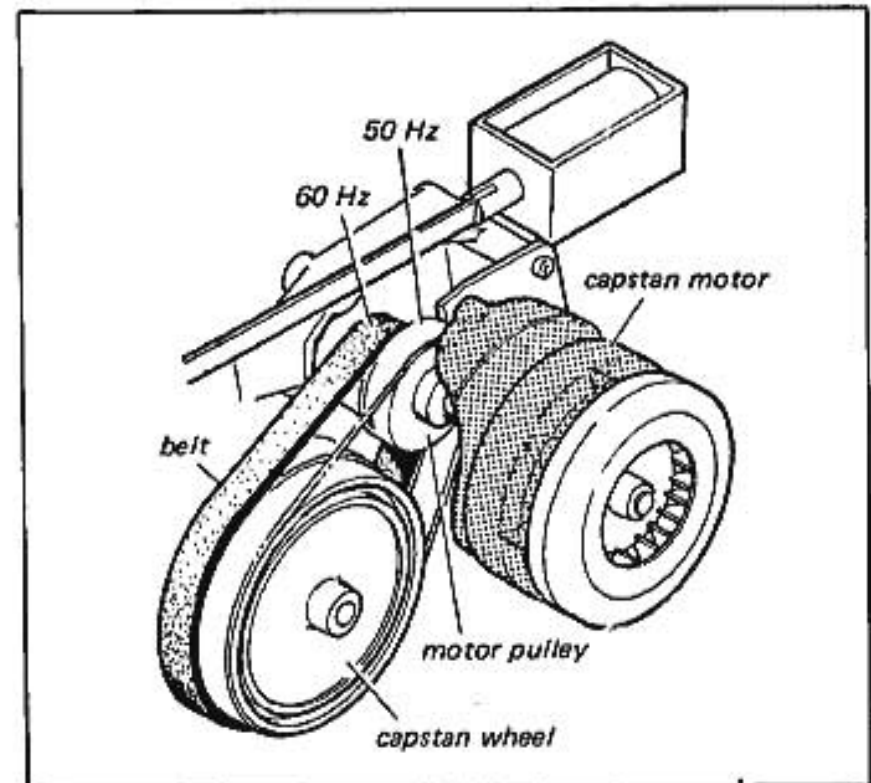

Fig. 9-2
(See Figs. 9-2, 9-3)
- 2) Apply the capstan belt on the correct side of the capstan wheel and motor pulley so that the belt tracks correctly (See Fig. 9-2.) Note that the smaller side of the motor pulley is for 60 Hz operation and the larger side for 50 Hz operation, while the smaller side of the capstan flywheel is for 50 Hz operation and the larger side for 60 Hz operation.